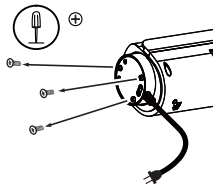
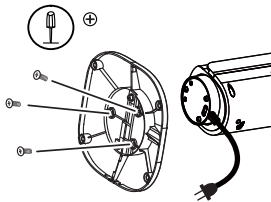

Figure 1
Figure 5
1. Unscrew three (3) locking screws from the bottom of the heater body (Figure 1) and save them.
5. Secure the base to the heater body with the locking screws from Figure 1. Tighten the locking screws firmly with a screw driver. (Figure 5)